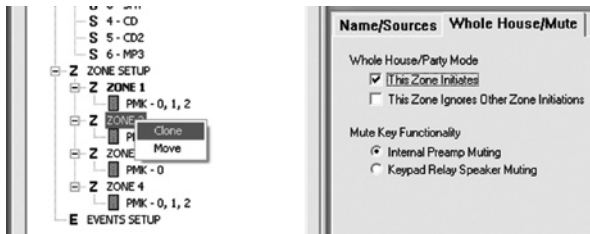

Figure 10 Cloning Zone 1 to Zone 2, etc
2. Left-click **Zone 1** under Project Content and drag and drop it onto Zone 2. Click “Clone” on the pop-up. Refer to **Figure 10**. You now have an exact replica of Zone 1 at Zone 2. Repeat this for each zone.